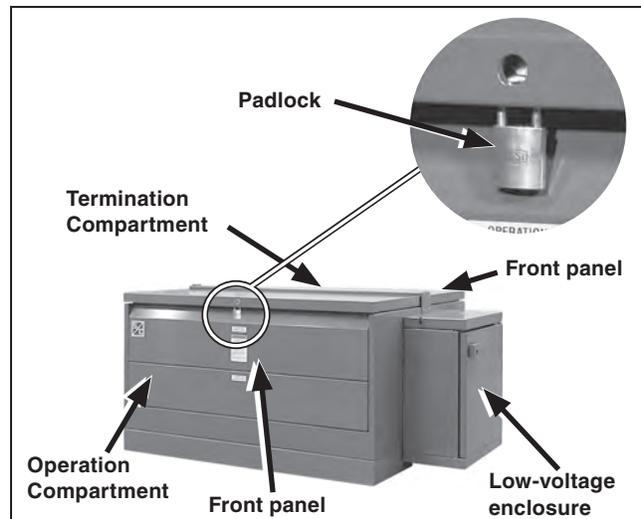

Figure 56. Lock the outer and low-voltage enclosures.
- STEP 4.** Padlock the switchgear and low-voltage compartment or enclosure before leaving the site even momentarily. See Figure 56. Observe this procedure even in those cases where the gear is accessible only to qualified persons.